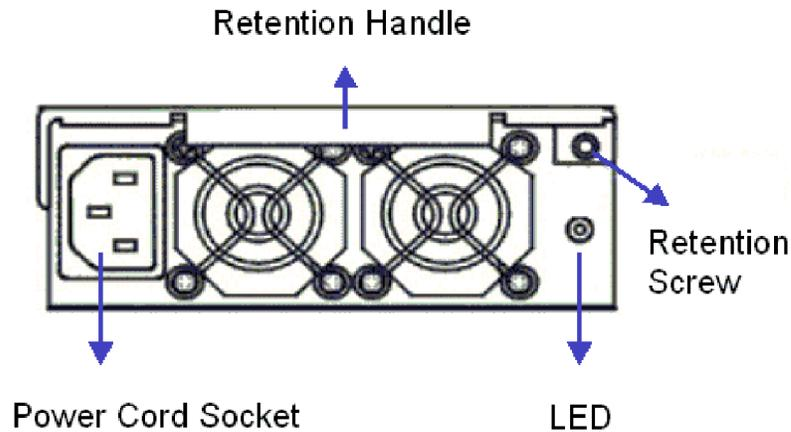

Figure 1-10: PSU Module
The 24 BAY subsystems is equipped with three (3), hot swappable, 1U-profile, 405W PSU modules (see *Figure 1-10*). The PSU modules are located on the rear panel of the subsystem.